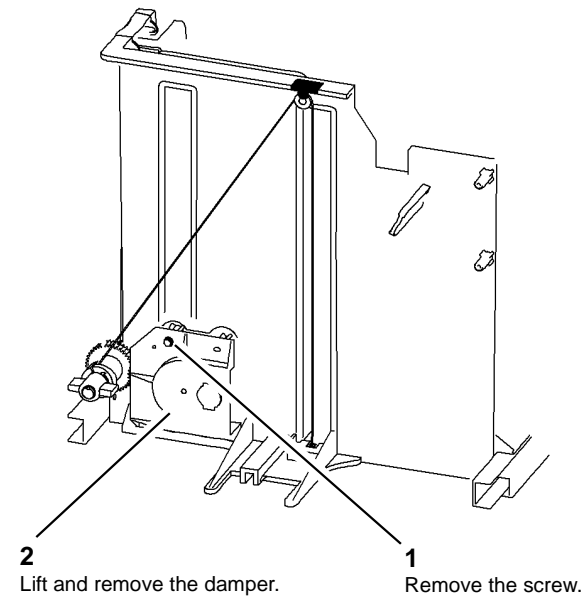

Figure 1 Tray 3 damper removal
- Remove the damper from tray 3, Figure 1.